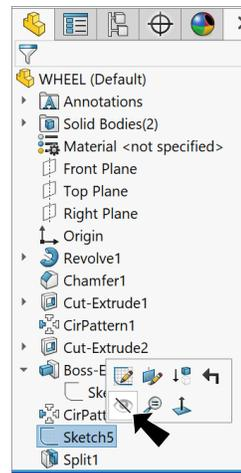

Fig. 35
Step 1. **Hide Sketch5.** To hide, click **Sketch4** in the Feature Manager and **Hide**  on the context toolbar, **Fig. 35.**